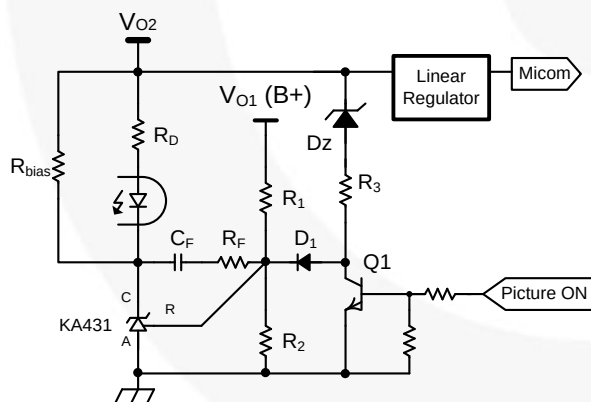

Figure 36. Typical Feedback Circuit to Drop Output Voltage in Standby Mode
6. Burst Operation: To minimize the power consumption in the standby mode, the FSCQ series employs burst operation. Once FSCQ series enters burst mode, FSCQ series allows all output voltages and effective switching frequency to be reduced. Figure 36 shows the typical feedback circuit for C-TV applications. In normal operation, the picture on signal is applied and the transistor Q_1 is turned on, which decouples R_3 , D_z and D_1 from the feedback network. Therefore, only V_{O1} is regulated by the feedback circuit in normal operation and determined by R_1 and R_2 as: